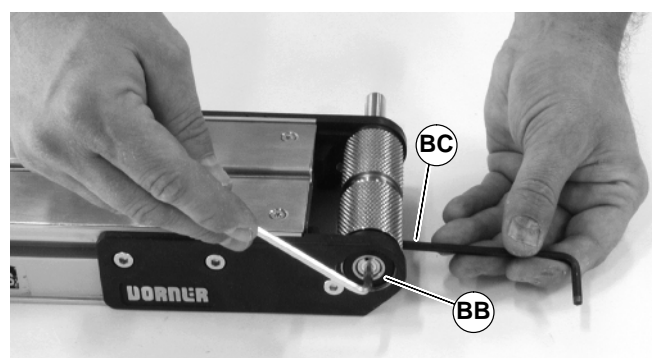

Figure 42
4. With 4mm hex-key wrench, tighten pulley taper screw (BB of Figure 42) to 4 Nm. Steady pulley with second hex-key wrench (BC) inserted into pulley hole.